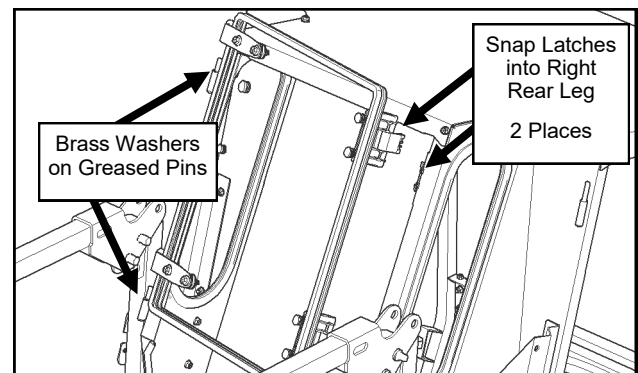

Fig. 15.2 (Rear Window, with steel doors only)
- 15.2** Hang the rear window on the hinges. See Figure 15.2.